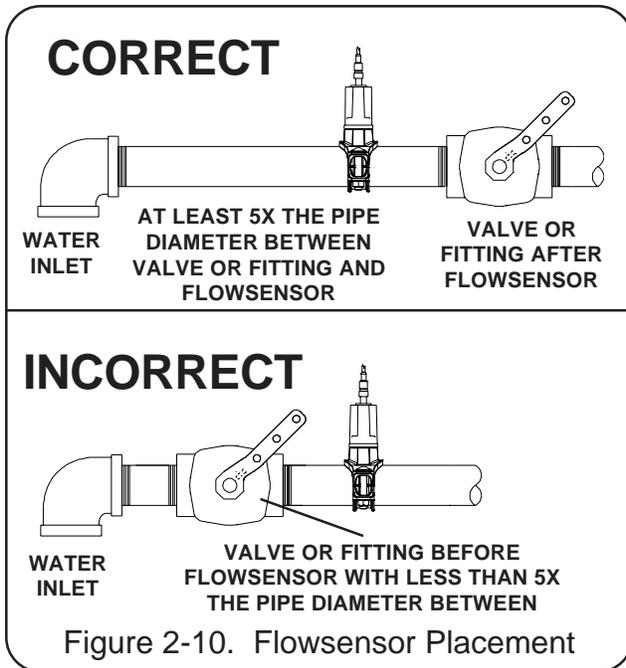

Figure 2-10. Flowsensor Placement
a. A minimum **6 times the pipe diameter** of straight run pipe without any fittings is necessary prior to the flowsensor paddlewheel (see figure 2-10). Minimum required straight pipe run: